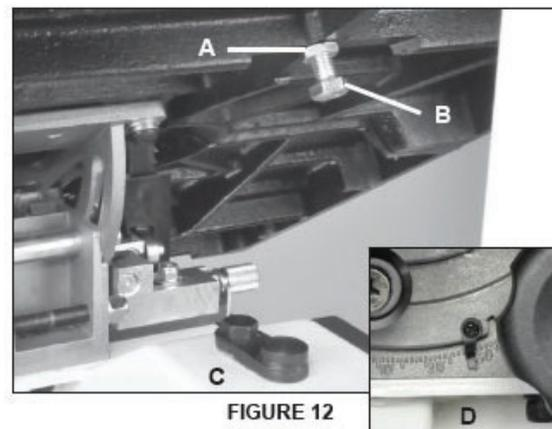

FIGURE 12
Thread the Hex Bolt (#8B) and Nut (#7B) to the bottom of the table in the pre-bored and tapped hole. See Fig. 12 Setting the table to 90° to the blade will be done later.
The table may be set at 90° to the saw blade sides by adjusting the table stop Bolt under the table. The table stop bolt rests on the top of the pivoting Stop Block **Fig. 12.**
1. First loosen the bolt's Locking Nut **Fig. 12, A.**
3. Adjust the bolt (**Fig. 12, B**), up or down, until it is in contact with the pivoting Table Angle Stop Block **Fig. 12, C.** Retighten the locking nut making sure that the table angle setting is maintained.
4. The angle indicator on the trunnion, can be adjusted by loosening the Phillips head screw and moving the pointer into position. **Fig. 12 D.**